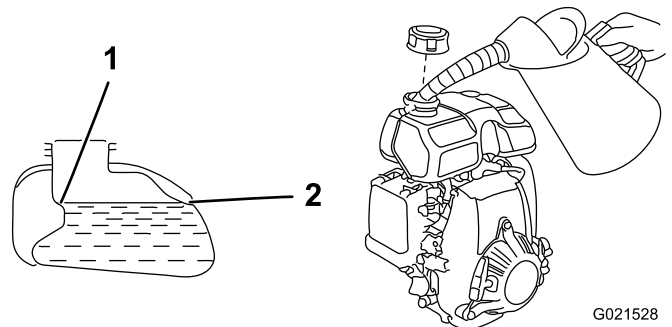

Figure 14
3. Add unleaded gasoline to the fuel tank, until the level is at the fuel-level mark, as shown in Figure 14.
4. Install the fuel cap securely (Figure 14).